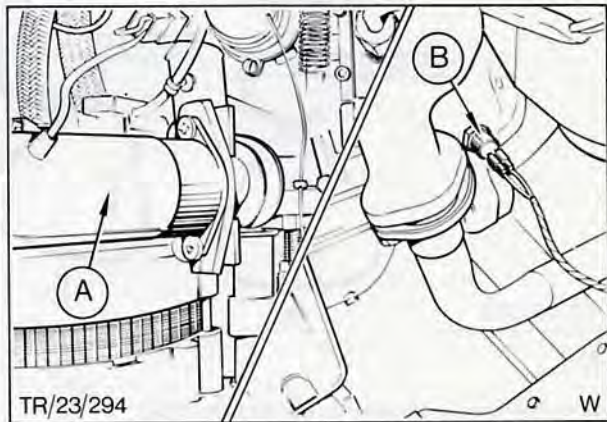

Fig. 9. Excess fuel system
C. Excess Fuel System Fig. 9
To ensure good starting characteristics are achieved on cold engines an automatic excess fuel system is installed as a standard feature on all diesel variants. The purpose of the system is to allow the injection pump to supply additional fuel when the engine is being started from cold and to ensure that excess fuel is not delivered during 'hot' start operation, and normal running. The system consists of a plunger or button, located on the side of the injection pump, linkage within the pump, a control solenoid positioned next to the plunger ('A' in Fig. 9) and a temperature sensing switch fitted into the cylinder block. The temperature sensing switch is not fitted into a water gallery and senses the temperature of the cylinder block rather than the coolant mixture. Therefore, when removing this switch there is no requirement to drain or refill the cooling system.